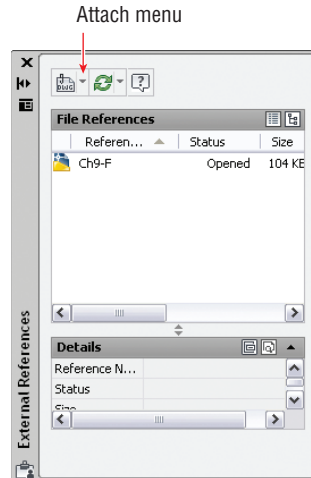

FIGURE 9.26 Attaching a DWG file in the External References palette
3. Select the ribbon's View tab, and click the External References Palette button in the Palettes panel. Open the Attach menu, as shown in Figure 9.26.